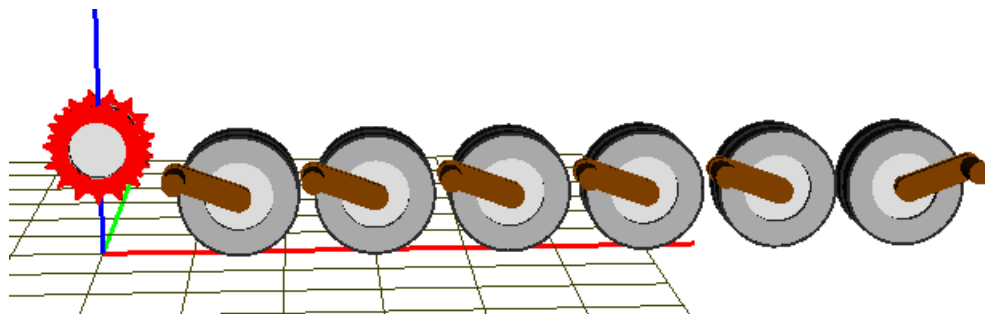

Figure 1.14. Adding sprocket
1. Add the sprocket to the model by the **Generate** button, Figure 1.14.